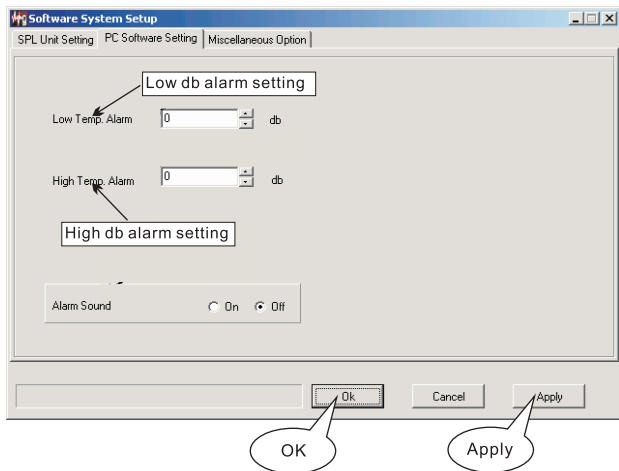

Figure 29
- Click option page PC Software Setting will enter into the window as following picture as shown in figure 29: (Click Apply or OK to confirm)